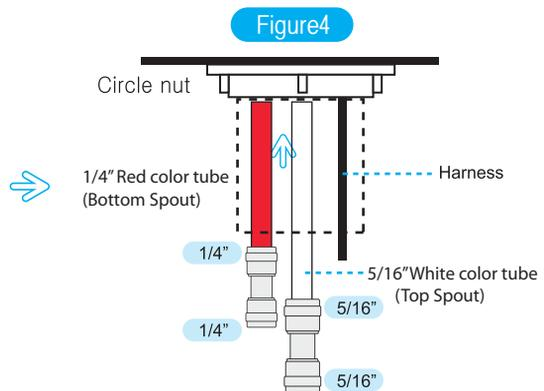

Figure4
- 3 Push the 1/4 in. (PE) hose all the way in the water inlet at the bottom of the machine.
- 5 After finishing the connection of "Figure 4" open the water supply valve and adjust the water pressure.
- 3 Push the 1/4in.(PE) hose all the way in the water inlet at the bottom of the machine.
- 4 After the faucet is fixed, connect it to fitting with 5/16" hose (for Alkaline) like figure 4. Check the hose whether it is inserted properly or not. Also, connect it with 1/4" hose (for Acidic) like figure 4 and connect the faucet to the body with connector cord.